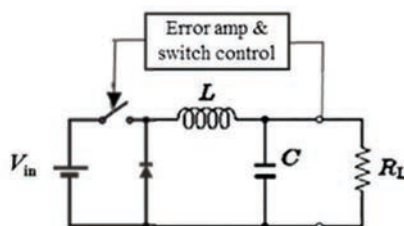

Figure 11.17 Ch 11: No. 15, self-test
15. For the step-down voltage regulator of Figure 11.17, determine the output voltage, if the input voltage is 15 V, on time is $4\mu\text{s}$, and off time is $5\mu\text{s}$.